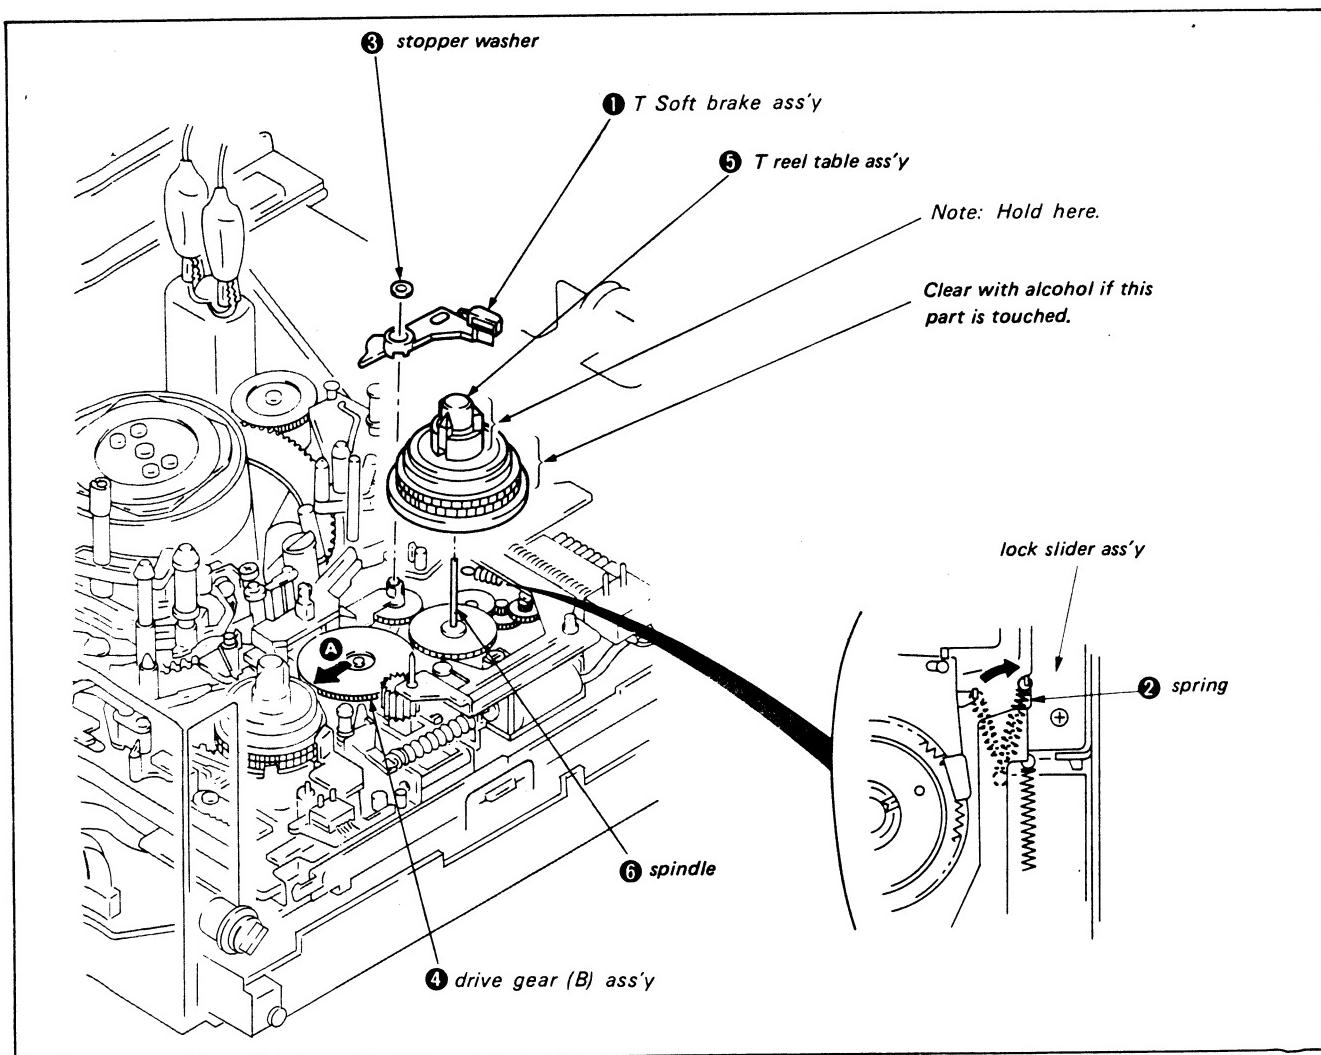

Fig. 3-2.
- 3) Place the spring **②** on the T.S brake assembly **①** on the hook on the lock slider assembly.
- 4) Remove the stopper washer **③** and the T soft brake assembly **④**.
- 6) Move drive gear (B) assembly **④** in the direction of arrow **A**.
- 7) Remove T reel table assembly **⑤**. (See Fig. 3-2)
Note: Be sure to hold the upper reel hook when removing. (See Fig. 3-2).
- 1) Place a half drop of oil on the shaft **⑥** upper surface.
- 2) Move the drive gear B assembly **④** in the direction of arrow **A**. (Check **EJECT** mode.)
- 3) Mount the T reel table assembly **⑤**.
- 4) Mount the T soft brake assembly **①** and the stopper washer **③**.
- 5) Place the spring **②** on the T.S brake assembly **①** hook. (See Fig. 3-2)